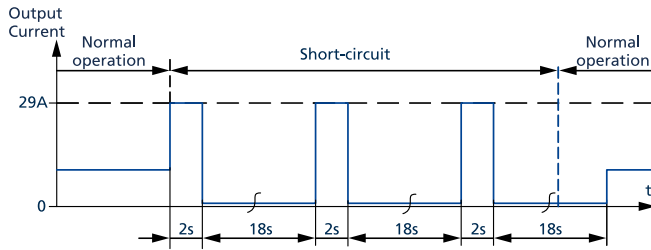

Fig. 6-3: Short-circuit on output, Hiccup^{PLUS} mode, typ.
2) At heavy overloads (when output voltage falls below 13 V), the power supply delivers continuous output current for 2 s. After this, the output is switched off for approx. 18 s before a new start attempt is automatically performed. This cycle is repeated as long as the overload exists. If the overload has been cleared, the device will operate normally. See Fig. 6-3.